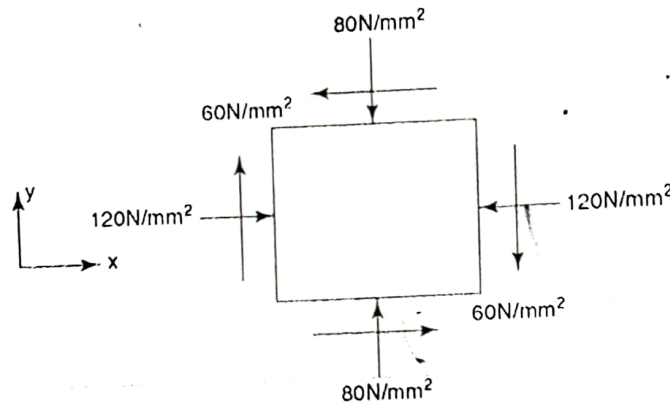

Fig. 2
3. The state of stress in a material stressed to two-dimensional state of stress is as shown in *Fig. 2*. Determine principal stresses and maximum shear stress and the planes on which they act. [14]